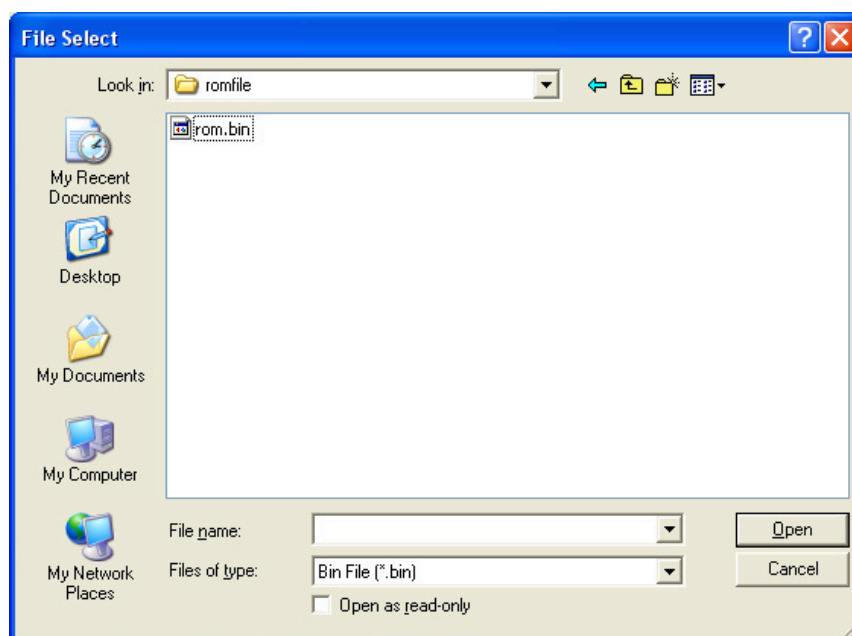

Figure 12. Open dialog box for uploading
- ④ When the window as shown in Figure 12 is displayed, select file for upload and click "Open" button.